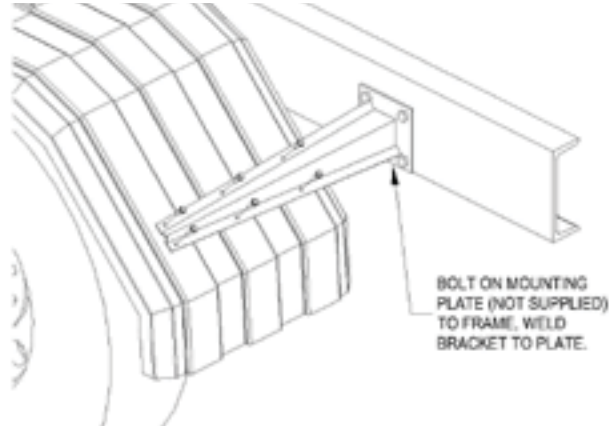

Figure 5
- B. Weld fender bracket to frame. You can bolt a plate (not supplied) to the frame and weld to that plate or just weld the brackets right to the frame if preferred. **Check your owners' manual before welding directly to the frame. Most manufactures suggest that you do not weld anything directly to the frame.** Make sure the brackets are aligned to the fender prior to welding. Plate should be a minimum of  $\frac{1}{4}$ " thick steel. See Figure 5 on next page.